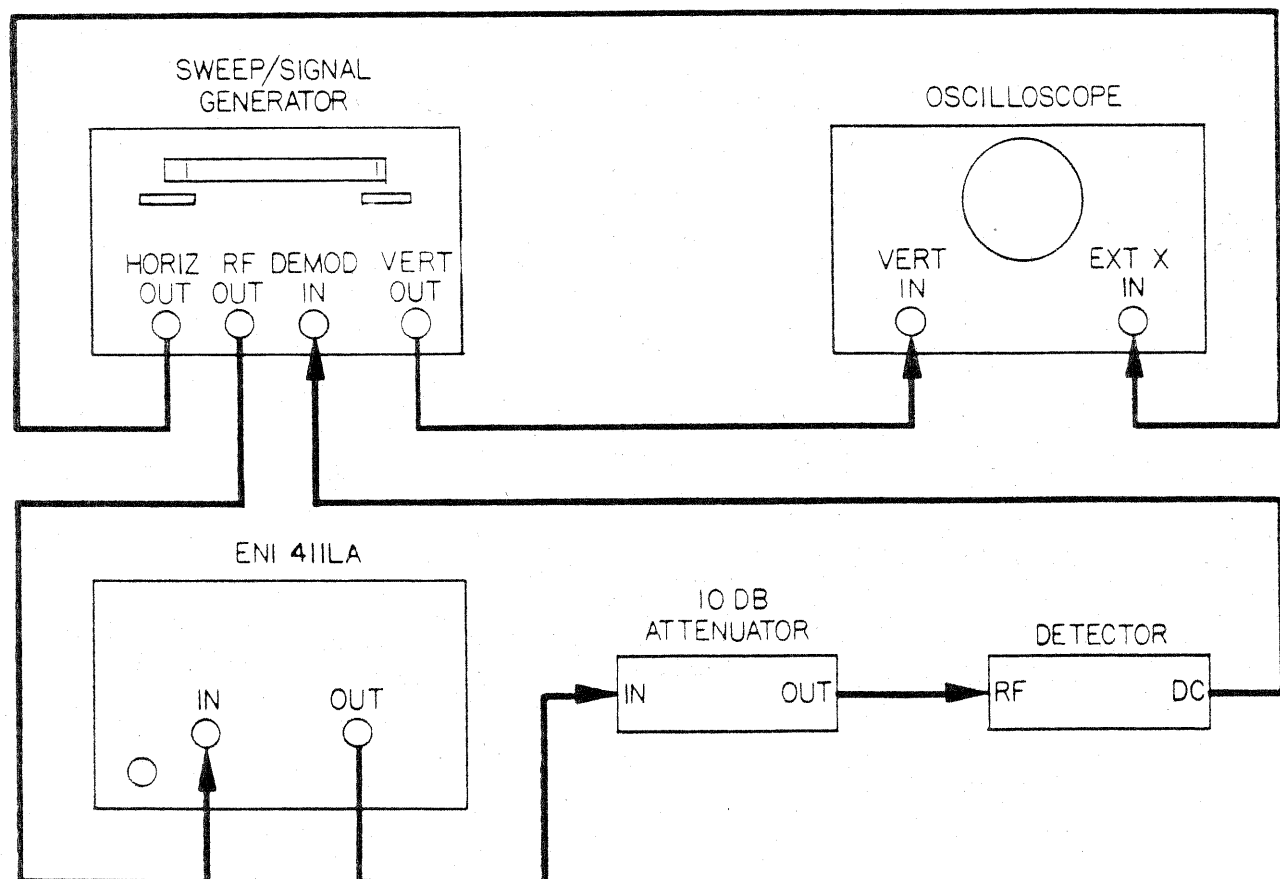

Figure 4-1 Gain Measurement
Connect the equipment as shown in Figure 4.1, then proceed as follows:
- (g) Reconnect the 411LA into the test set-up of Figure 4.1.